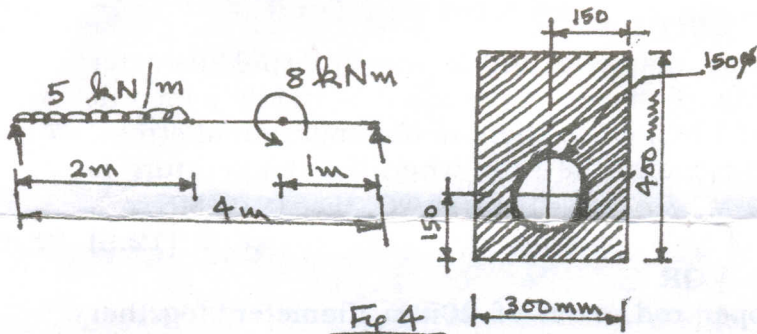

Fig 4
- Q3 A simply supported beam of span 4m is loaded as shown in fig.4.
- (a) Determine the maximum tensile and compressive stresses at a section 2.2m from the left support. (10)